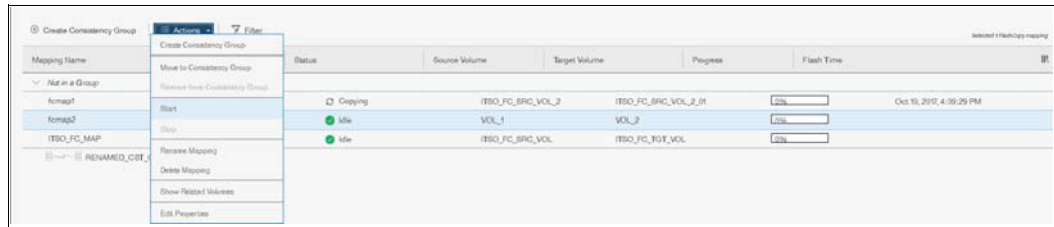

Figure 10-70 Stopping the FlashCopy copy process
3. Click **Actions** → **Stop** (as shown in Figure 10-70 on page 513) to stop the FlashCopy Consistency Group copy process.